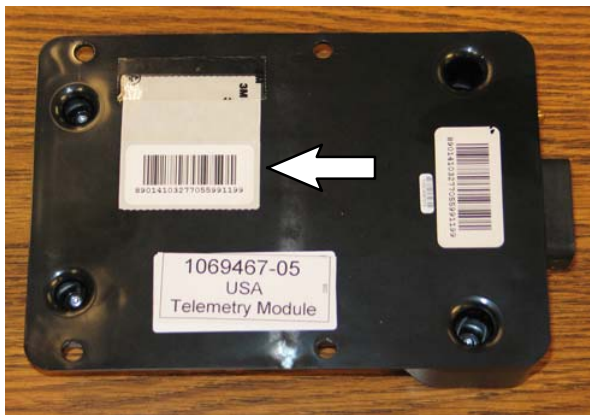

FIG. 2
3. Remove the additional SIM label from the back of the control box (1) and set label aside in a safe place. The number on the SIM label will be needed for activating the machine. (Fig. 2)